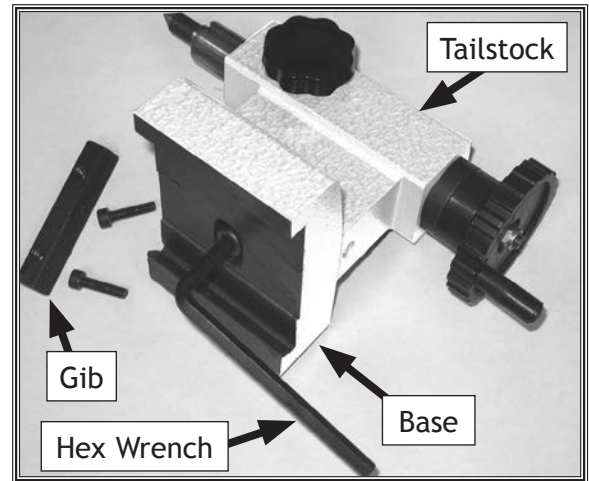

Figure 11. Removed tailstock.
3. With the tailstock removed (Figure 11), use a 6mm hex wrench to loosen the base-to-tailstock cap screw.